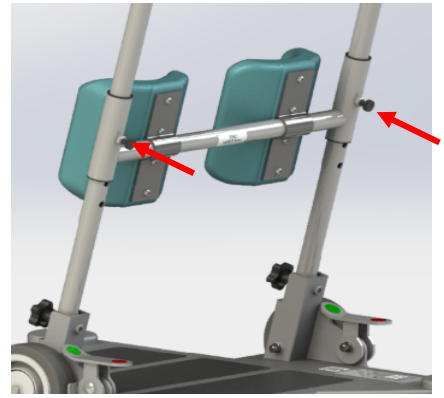

Figure 13
3. Once you are happy with the new position of the pad, simply release the black locking plungers by letting go of them both at the same time. (see figure 13)